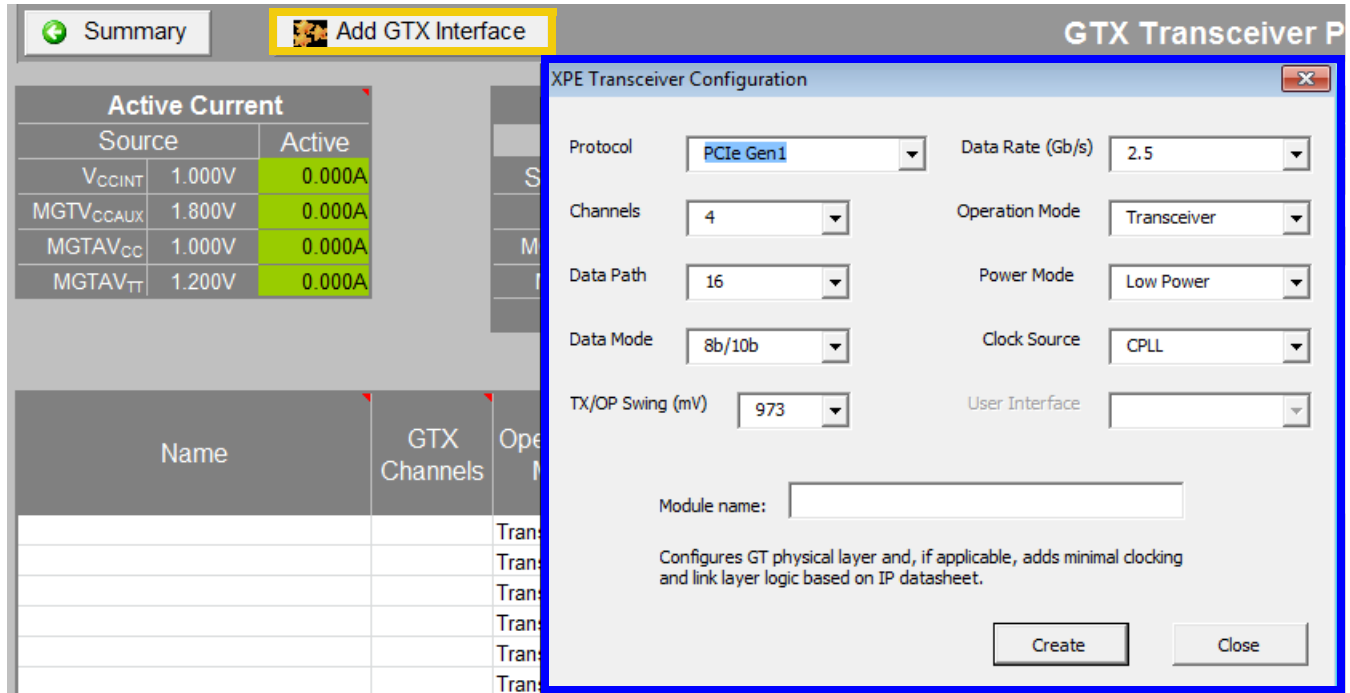

Figure 2-11: GT Configuration Using Transceiver Configuration Wizard
**RECOMMENDED:** Use the Transceiver Configuration wizard (launched by the **Add GTX Interface** button) to ease data entry and accuracy (Figure 2-11).